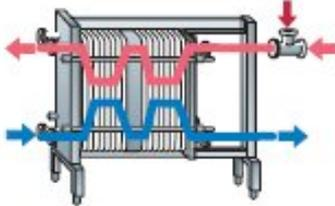

Fig. 9.12 Plate heat exchanger for heating and cooling.
- Plate heat exchangers, Figure 9.12